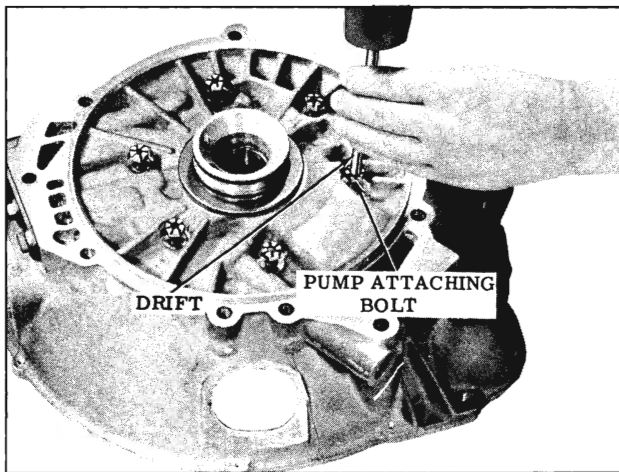

Fig. 3-274 Servo Piston Assembly
2. Carefully, tap on the bolt heads to free the pump and "O" ring seal from the case cover assembly. (Fig. 3-274)